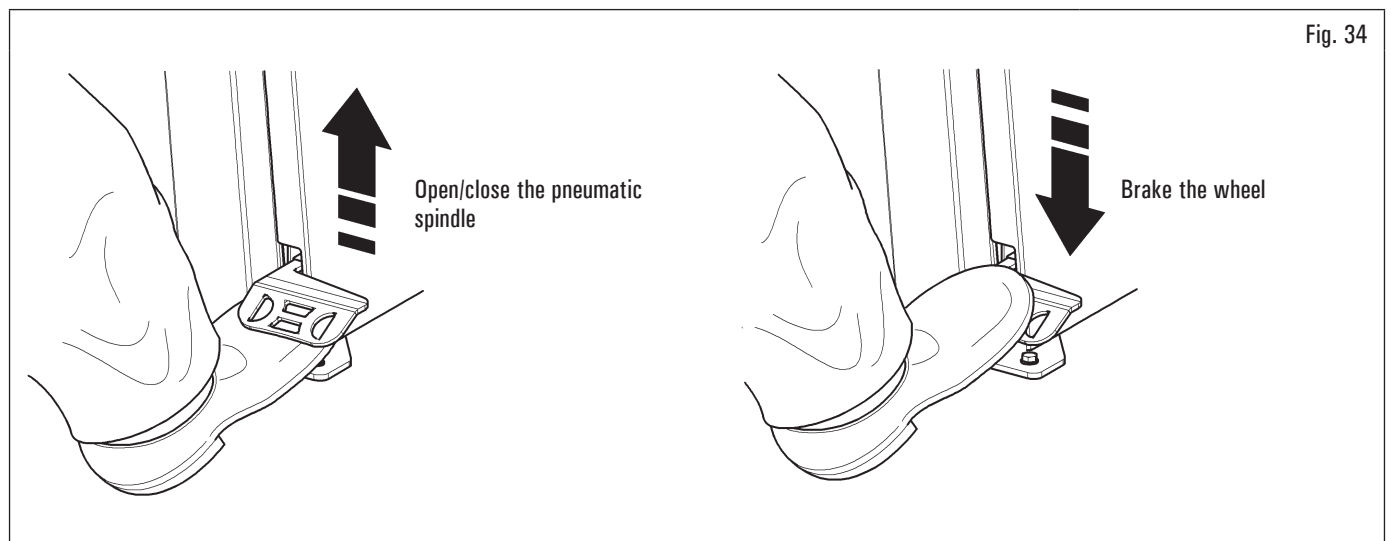

Fig. 34
1. If the pneumatic spindle is closed, open it by lifting the specific pedal, see Fig. 34;